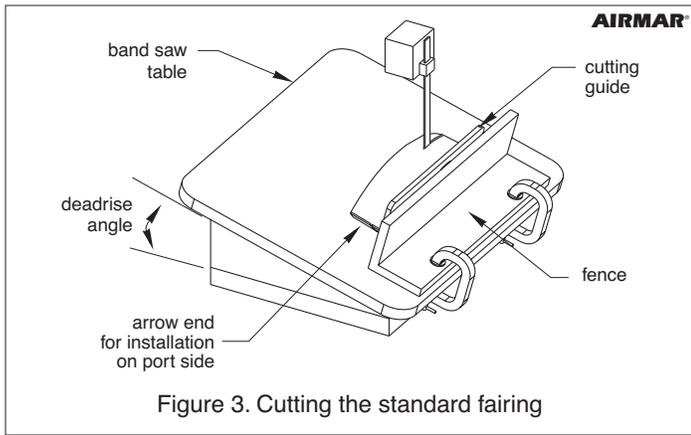

Figure 3. Cutting the standard fairing
2. Tilt the band saw table to the measured angle and secure the cutting fence (see Figure 3).
3. Place the fairing on the table so the cutting guide rests against the fence. The arrow will be pointing toward you for installation on the port side and away from you for installation on the starboard side of the boat (see Figures 3 and 4).